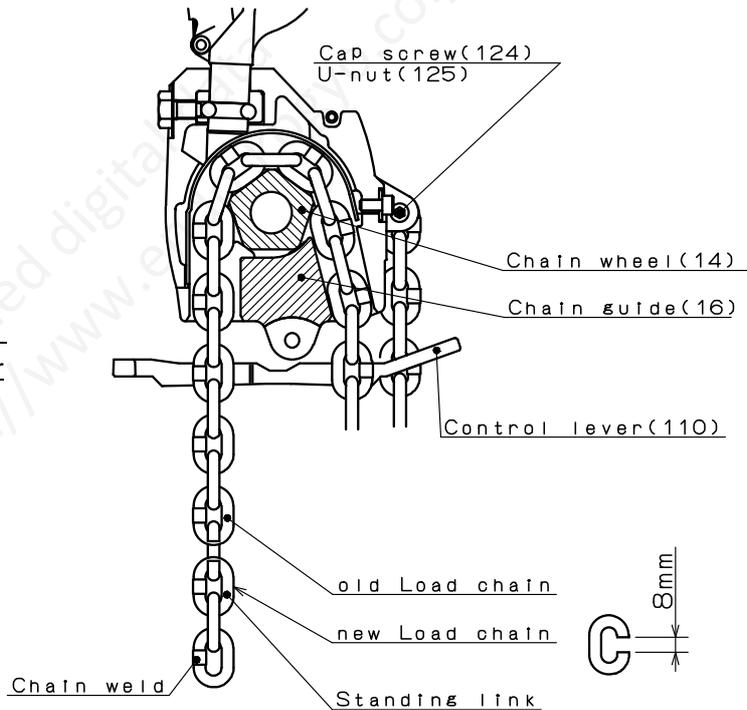

Fig.11
2. Method 2 (See Fig. 11)
- 2) Using an abrasive wheel, etc. , cut a portion of the second link from the end (i.e. the first flat link) as shown in Fig. 11.